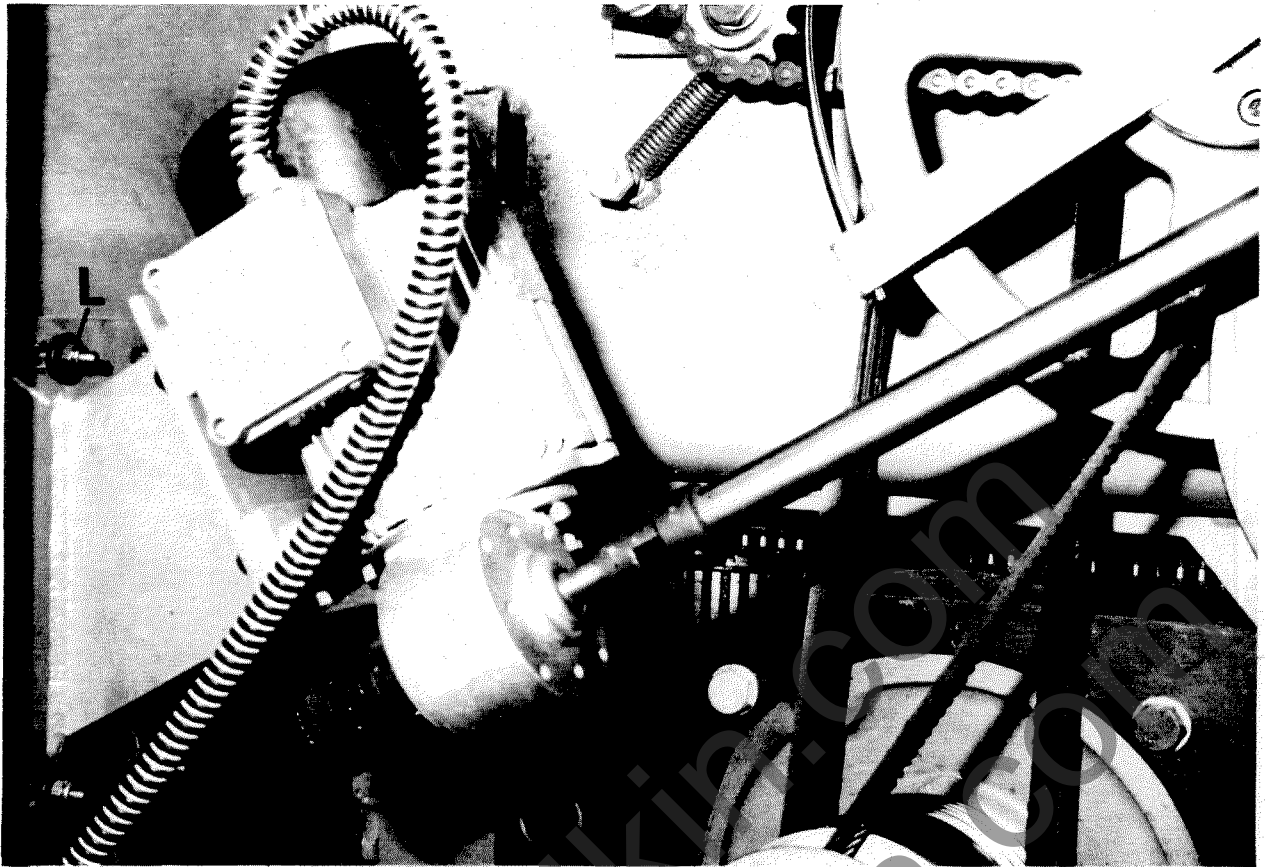

FIG. 20
- c) Loosen 4 - M10 aerotight nuts 'L' FIG.20, to release tension on motor bracket.